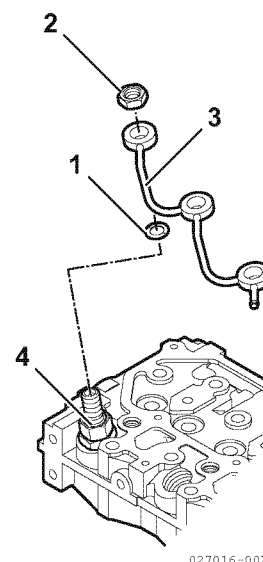

Figure 7-5
3. Remove all fuel return line nuts (**Figure 7-5, (2)**) from the injectors (**Figure 7-5, (4)**).
5. Carefully remove the fuel return line assembly (**Figure 7-5, (3)**).
6. Remove and discard the copper gasket (**Figure 7-5, (1)**) from each fuel injector.